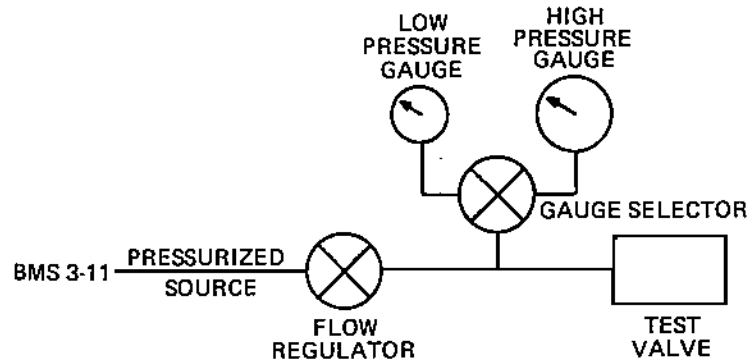

FIGURE 1A
1. Leakage Test (See Figure 1A)
- b. Apply 5.0 psig and 3000 psig for five (5) minutes each. The leakage period will consist of the last three (3) minutes of the five (5) minute period. The rate of internal leakage will not exceed 1.0 drop per minute for the 5.0 psig test pressure and no drops for the 3000 psig test pressure. There will be no external leakage throughout the pressure range other than a slight wetting insufficient to form a drop.